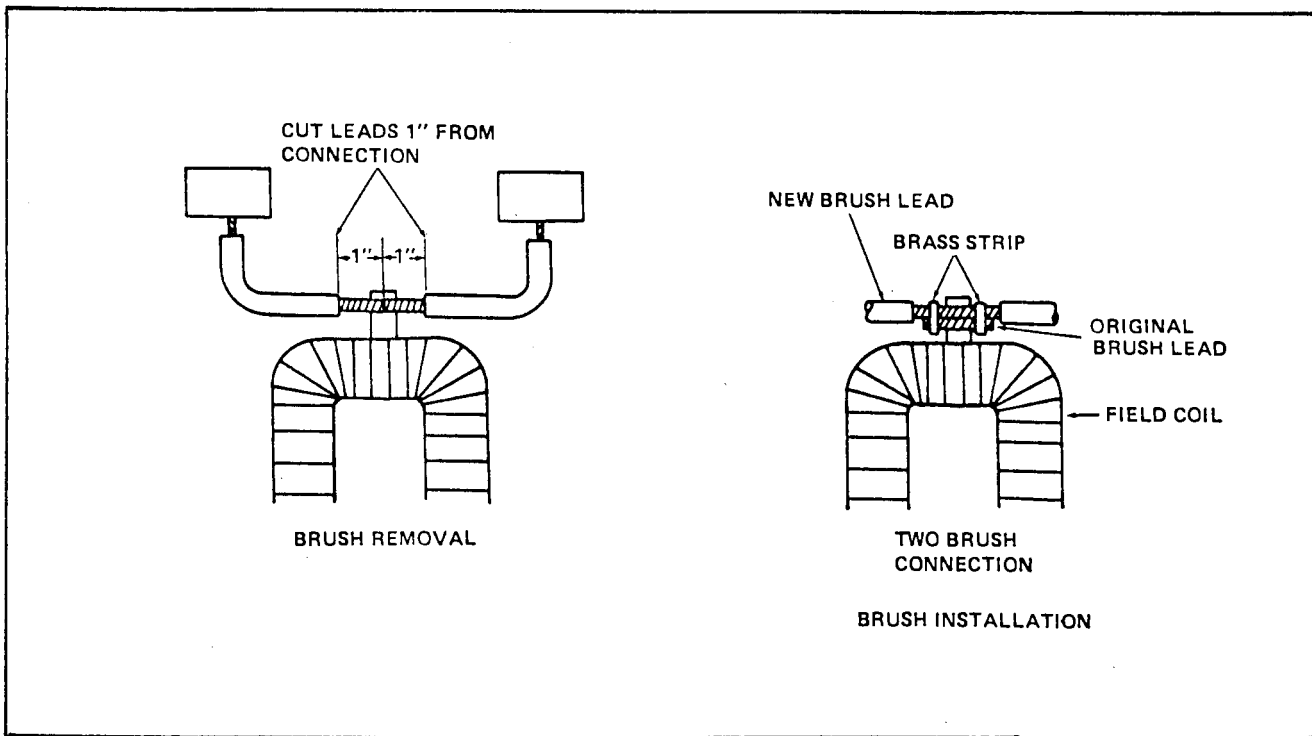

Figure 5-12. Brush Replacement STYLE I Starter only
- (1) Soak sleeve bearing (36) in SAE 10 oil for 15 minutes before assembly of starter.
- (2) Press bearing (36) into pinion housing (28).
- (3) Slide drive assembly (35) onto the armature shaft. Slide stop and position lock ring (34) in its groove on the armature shaft. Pull stop over lock ring. A bearing puller tool may be required.
- (4) Install thrust washer (27) on the end of the armature shaft. Slip yoke (32) onto the drive assembly (35) and install both in pinion housing (28). Install pin (31) in pinion housing to hold yoke (32) in place.
- (5) When brushes (26) are excessively worn, cut each brush lead 1 inch from the welded connection (see figure 5-12). Install new brush as follows:
- (b) Position the new brush lead next to the tinned section of the original brush lead. Install and crimp the brass strip connectors (that are supplied with new brush) around both leads to hold the brush in place. See figure 5-12.